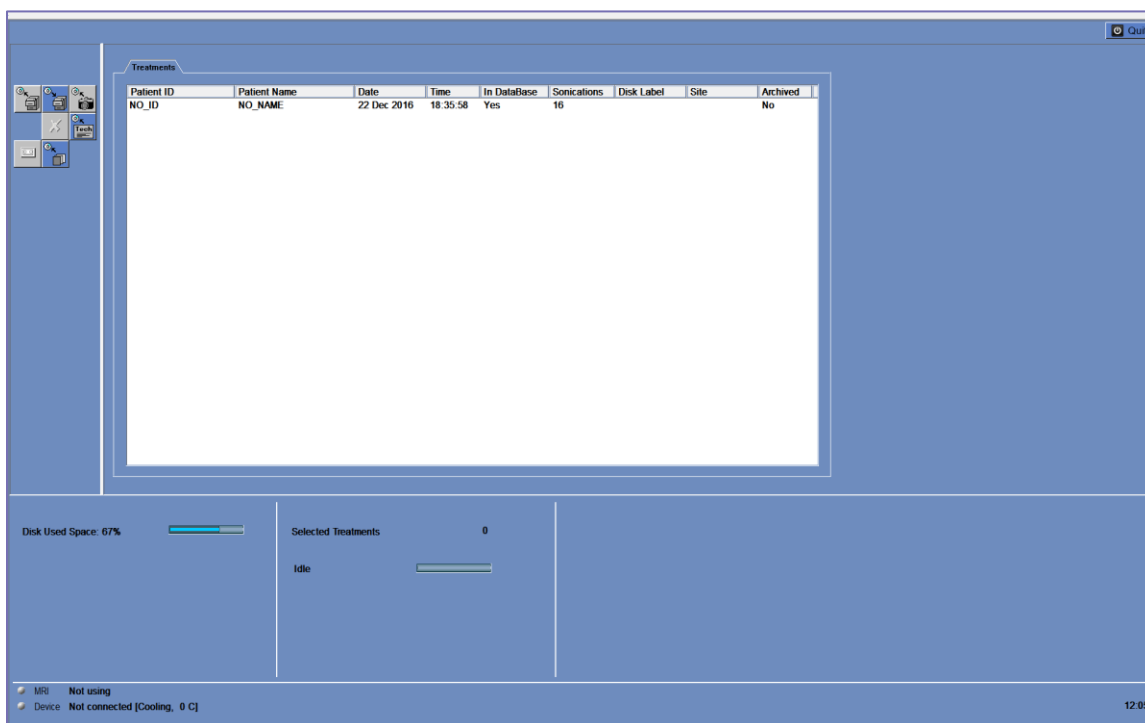

Figure 11-1: Data Management Screen
The following commands appear on the **Data Management** screen (see Figure 11-1):
5. Data will be exported to the CD or USB device. The export's progress can be viewed on the **Status Bar** (see Figure 11-1).
3. The imported treatments will be copied to the local drive and will be shown in the Patient List (see Figure 11-1).
- Erased treatments will still be displayed in the Patient list. The column **In Database** will indicate the availability of treatment in the Database (see Figure 11-1).
6.  Select the patients from **Data on WS** list and click the **Burn** button to export the images to a CD or to a USB device. The export process can be viewed in the **Status Bar** (see Figure 11-1).